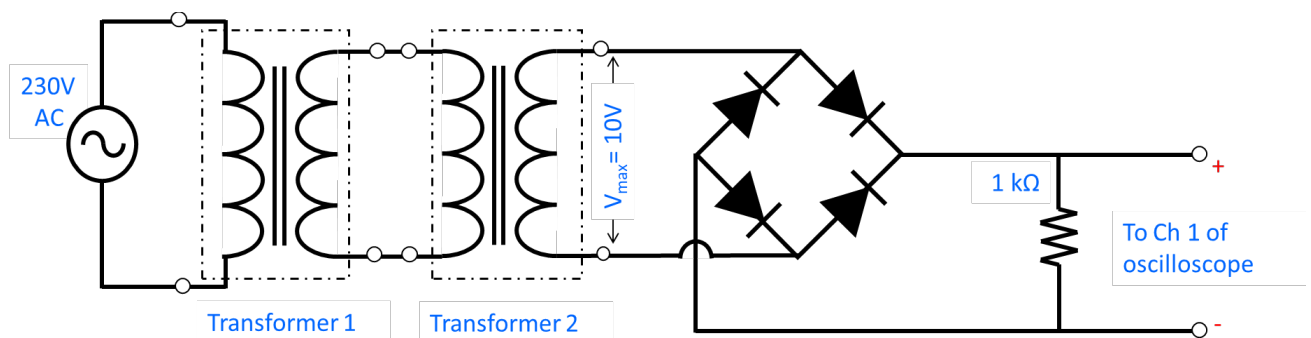

Figure 6: Circuit diagram for Activity 2 **without capacitor**
2. First, using the breadboard, construct the circuit shown in Figure 6 **without** the capacitor.